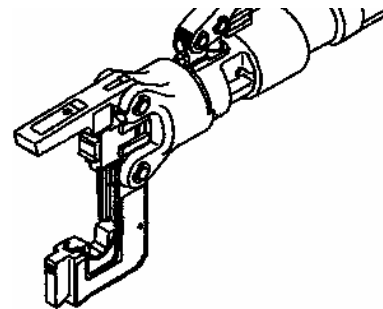

Figure 40. HD51 Open Head for Die Removal
- a. Open head and insert crimping dies (Figure 40). The head assembly has two slots to slide the dies in and out easily.